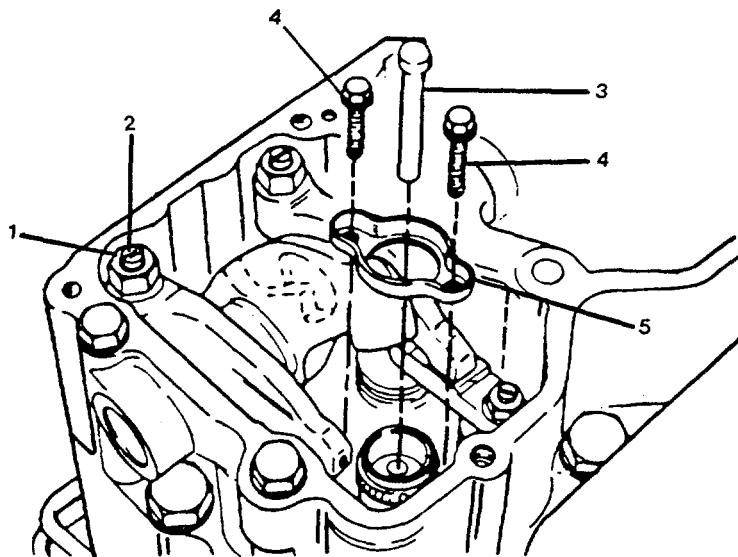
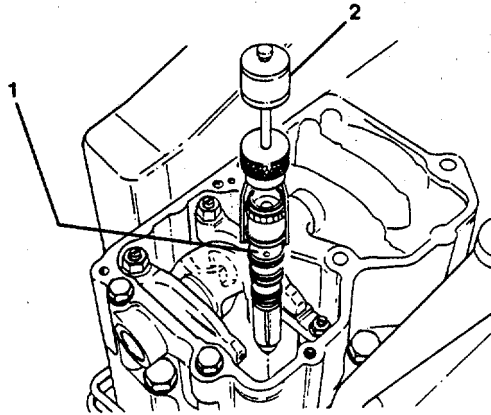

FIGURE 2-44. *Removing Injector.*
FIGURE 2-45. *Using Injector Puller.*
- a. Loosen the nut (1, Figure 2-44) on each injector lever.
- b. Turn out the setscrew (2) on each injector rocker lever.
- e. Remove the detent plunger (3) and lockwasher.
- f. Remove the two clamp capscrews (4) and the injector clamp (5).
- g. Remove the injector (1, Figure 2-45) with the injector puller (2).
- c. Apply pressure to the body of the injector (4) to seat the injector in the bore. A "snap" will be heard and felt as the injector is seated.
- d. Install the holddown clamp (5, Figure 2-44) and capscrews (4) over the injector body.
- h. Turn the adjusting screw (2, Figure 2-44) for the injector rocker lever in until it is properly seated in the push rod socket.